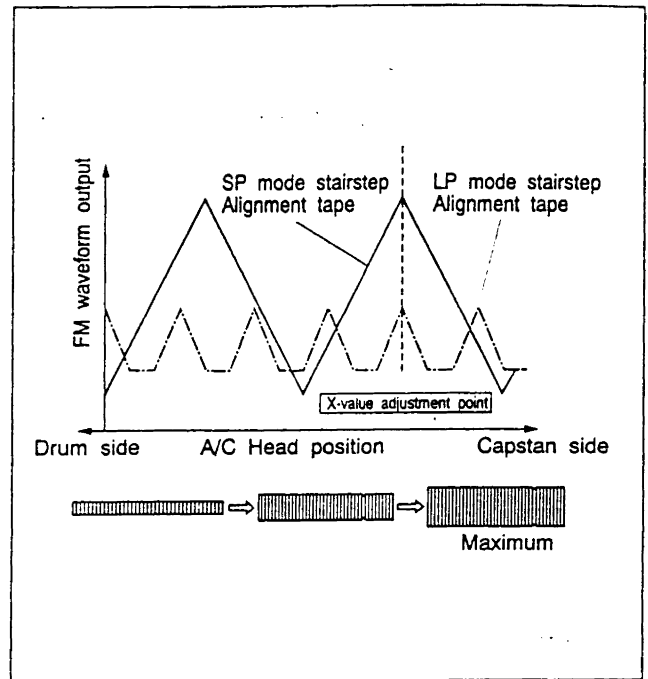

Fig. 2-7-7
- (5) Turn the tool first to position the A/C head fully toward the drum and stop at the position of maximum FM waveform output level as shown in Fig.2-7-7.
- (6) Tighten screw (5). Remove the tool and tighten screw (4).
- (7) Eject the SP alignment tape [MHPE] and then re-insert the LP alignment tape [MHPE-L].
- (8) Playback the LP stairstep portion of the alignment tape [MHPE-L].
- (9) Set the neutral manual tracking position by pressing the **///** button on the remote controller or TV PROG **⏮** and **⏭** buttons simultaneously.
- (10) Confirm maximum playback FM waveform output level as shown in Fig.2-7-7.
- (11) If not maximum, slightly loosen the screws (4) and (5). Use the tool and adjust the head position for the nearest maximum point. Then tighten screws (4) and (5).